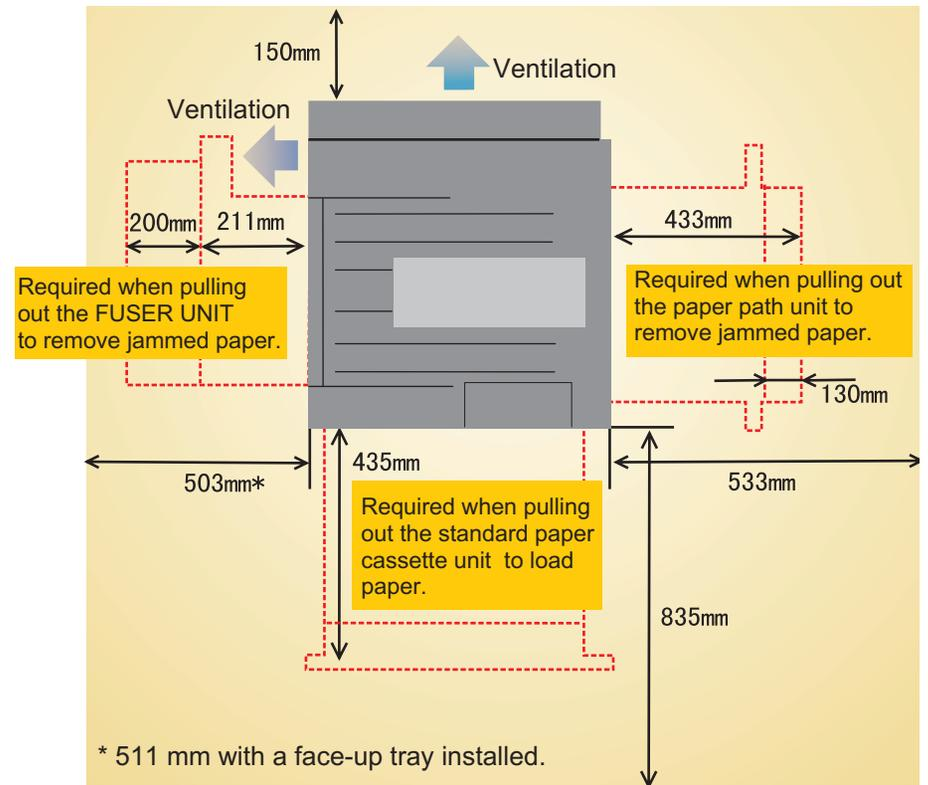

Figure 1-6. Space Requirement
- Surrounding environment: See Figure 1-6.